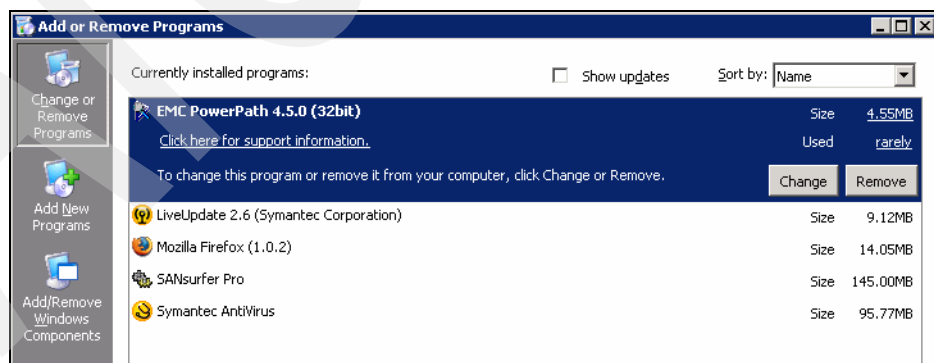

Figure 6-4 Remove PowerPath from the Windows host
- a. Uninstall the EMC PowerPath using **Add or Remove Programs** (from the Control Panel), as shown in Figure 6-4.